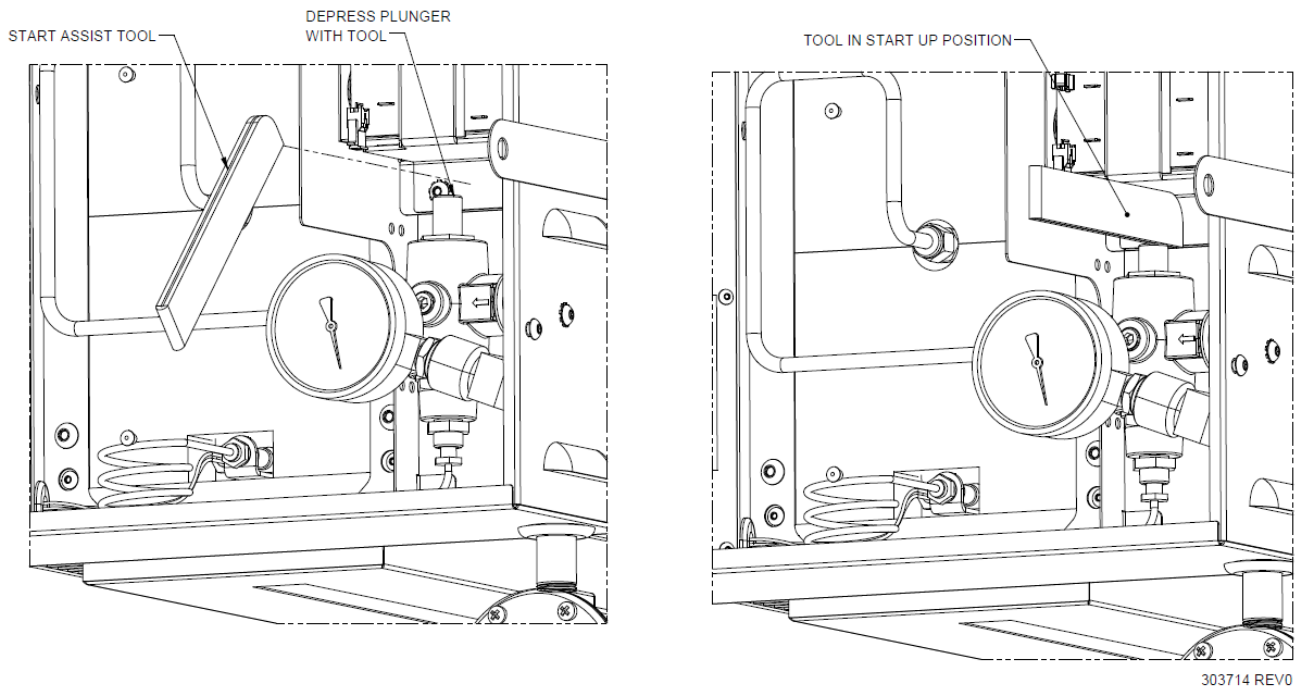

Figure 18 – Sentinel, Start Assist Tool
7. Press and hold the manual plunger on top of the safety shut-off valve. Hold the plunger down until the red Preheater status indicator LED light turns off. A tool is provided by GPT to be wedged between the plunger and the battery bracket, see Figure 18. It is designed such that it cannot be left in place to close the Instrumentation Cabinet door.